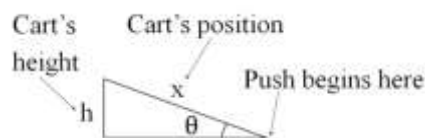

Figure 5: Finding h
1. The vertical height h of the cart will have an origin ($h = 0$) at the lowest position of the cart, where you began your initial push. The Position x of the cart is measured along the track from where your push began. From Figure 5 comes the equation: